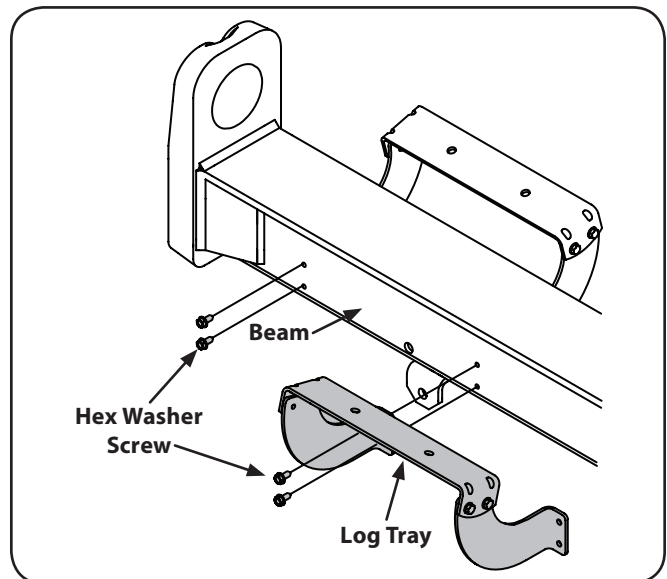

Figure 3-5
- Disconnect the log tray from the beam on the side of the control valve by removing the two hex washer screws that secure it to the beam weld brackets and the two hex washer screws in the beam. See Figure 3-5.